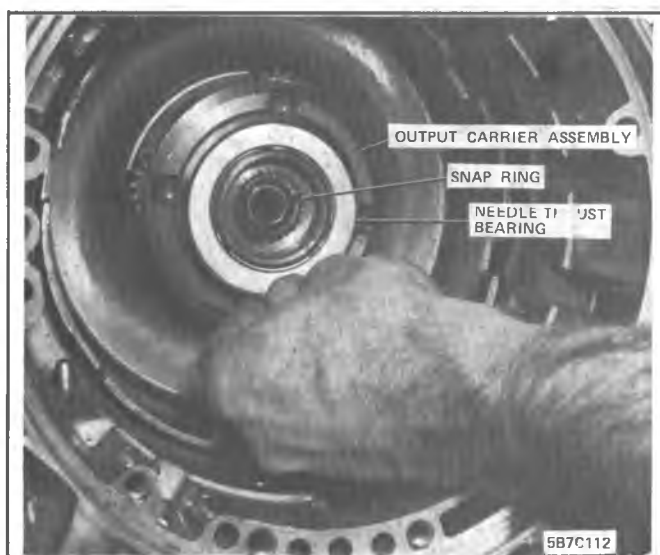

Figure 7A3-125 Output Carrier Needle Bearing
2. Install forward clutch housing to input ring gear front thrust washer. See Figure 7A3-120. Washer has three (3) tangs.